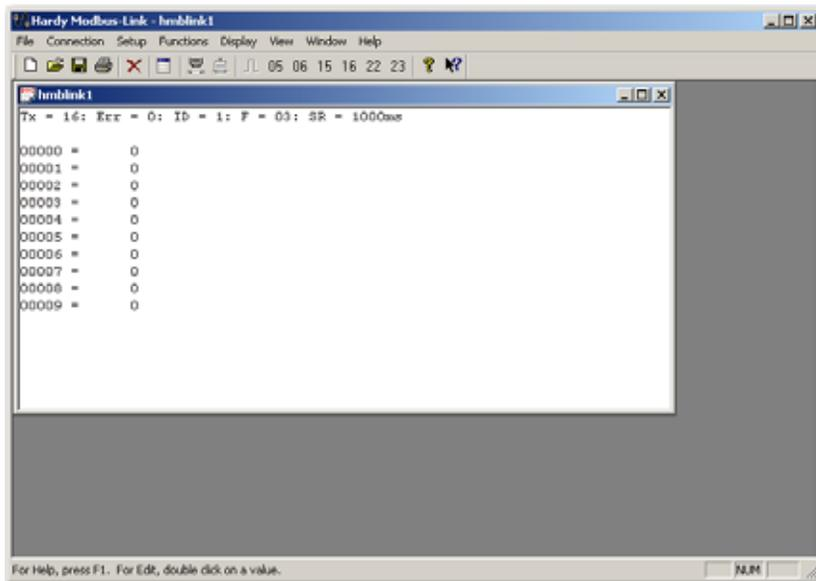

FIG. 233 HARDY MODBUS LINK CONNECTED
Step 7. Click on OK. The red “No Connection” disappears and the values at the top of the page start to change. (See Fig. 233)